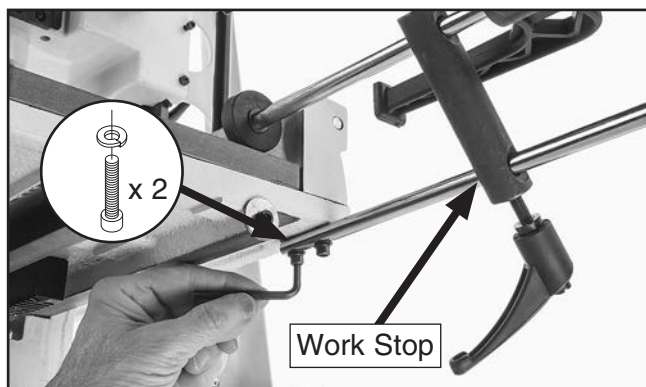

Figure 19. Attaching work stop to table.
1. Use (2) M6-1 x 20 cap screws and (2) 6mm lock washers to connect work stop to under-side of table (see **Figure 19**).